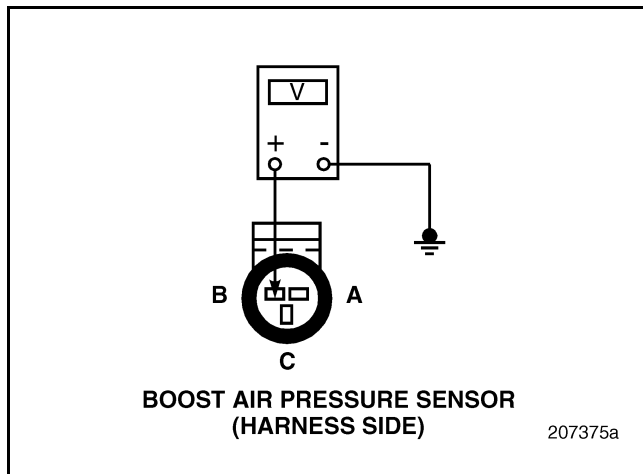

Figure 168
4. Measure the voltage between Boost Air Pressure (BAP) Sensor harness connector pin B (reference voltage line) and a good ground (see Figure 168).